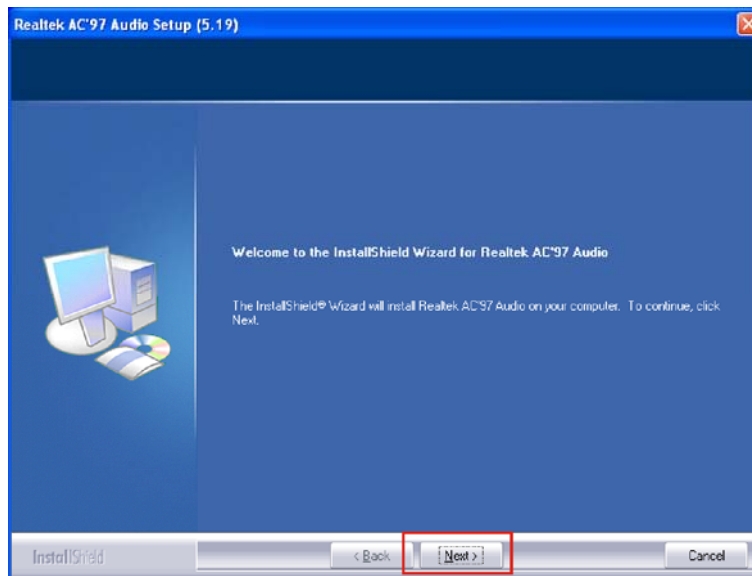

Figure 6-22: AC’97 Driver Installation Welcome Screen
Step 5: The AC’97 Driver Installation screen in **Figure 6-22** appears.